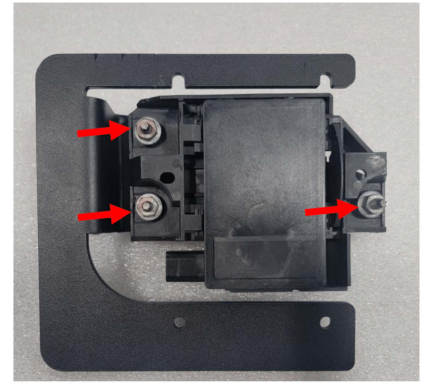

Figure 13.
13. Install the Adaptive Cruise Control (ACC) sensor into the ACC bracket (23113) using the OE AACC ball joint bolts. Make sure the face of the ACC is parallel to the mountain bracket once installed, do this by adjusting the sensor ball joint bolts. Figure 13.